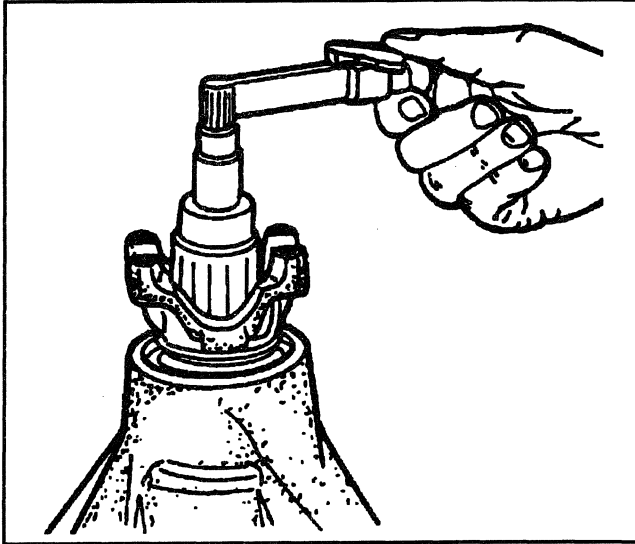

Figure 32—Measuring Pinion Bearing Preload
Measure (Figure 32)
- Pinion bearing preload. Use an inch-pound torque wrench (Figure 32). The correct preload is 1.7 to 2.8 N·m (15-25 lb. in.).